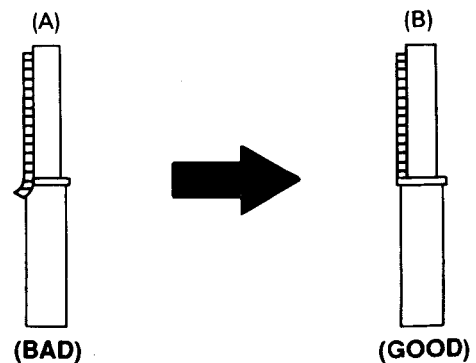

Fig. 6 Tape Guide Check
2. Confirm that there is no curl or wrinkle at the lower flange of tape guide as shown in Fig. 6 (B).
3. If a curl or wrinkle of the tape has occurred, slightly turn the screw (C) tilt adjust on the A/C H'd ass'y clockwise until it disappears as shown in Fig. 6 (B).
1. If tape wrinkle is observed at the lower flange of tape guide, adjust the A/C tilt adjusting screw counterclockwise as shown in Fig. 6 until the wrinkle disappears.